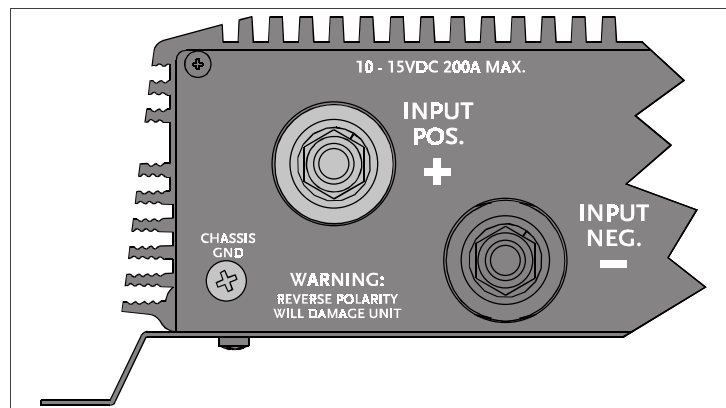

Figure 3-3 DC Panel Connections (XPower 1750 Plus shown)
The XPower Plus has a screw terminal labelled **CHASSIS GND** on the rear panel as shown in Figure 3-3. Follow the guidelines in “Grounding Locations” to connect the inverter’s chassis to the ground.
9. Install the lock washer and nut that are supplied with the inverter. Tighten the nut to a torque of **6.3–6.6 foot pounds (8.5–9.0 Nm)**. Make the connection snug enough so the ring terminal does not move around on the DC terminal, but do not overtighten. See Figure 3-3 on page 3-17 DC Panel Connections.